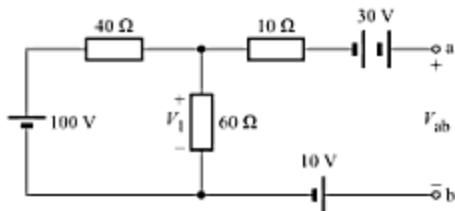

Fig. 3.62
3. Find the voltage  $V_{ab}$  across the open circuit in the circuit shown in Fig. 3.62. [Ans. 80 V]